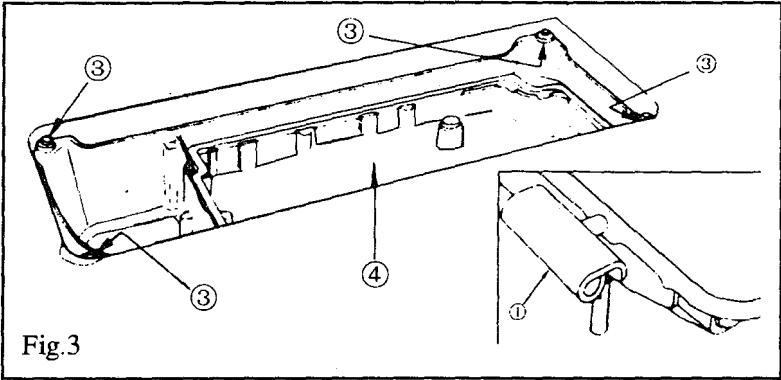
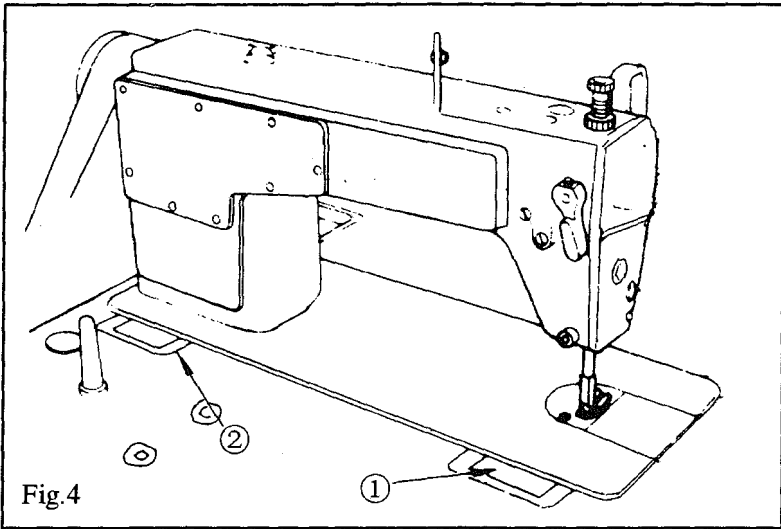

Fig.3
Fig.4
1. INSTALLATION (Fig. 1, Fig. 2, Fig. 3, Fig. 4)
- 3) Fix hinge ① into the opening in the machine bed, and fit the machine head to table rubber hinge ② before placing the machine head on cushions ③ on the four corners. (Fig. 3 , Fig. 4)